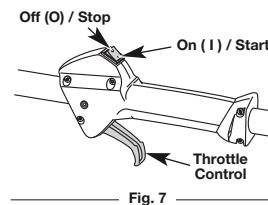
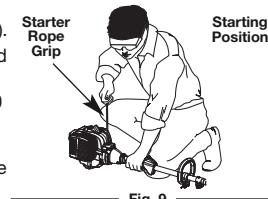

Fig. 7
Fig. 9
**WARNING:** Avoid accidentally starting the unit. To avoid serious injury, the operator and the unit must be in a stable position when pulling the starter rope (Fig. 9).
- NOTE:** There is no need to turn the unit on. The On/Off switch is in the ON (I) position at all times (Fig. 7).
- Crouch in the starting position (Fig. 9).
- Squeeze the throttle control (Fig. 7) and pull the starter rope with a controlled and steady motion **5 times** (Fig. 9).
- Press and hold the On/Off switch in the OFF (O) position until the engine comes to a complete stop (Fig. 7).